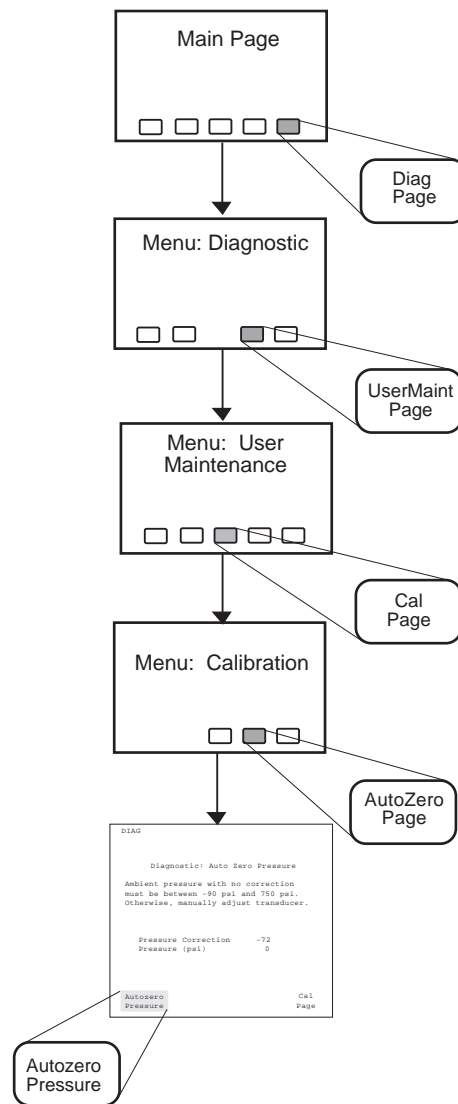

Figure 6-3 Accessing the Auto Zero Pressure Page
5. Access the Auto Zero Pressure page by pressing the keys indicated in Figure 6-3.